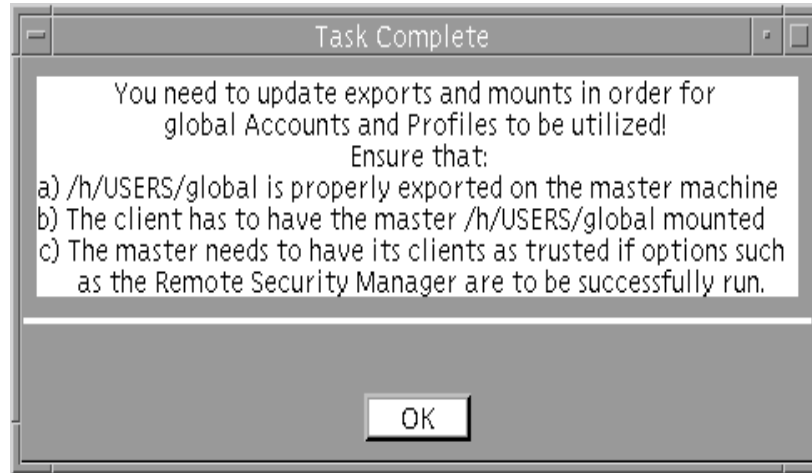

Figure 37. Task Complete Window
STEP 6: **Acknowledge the task complete instructions.** A Task Complete window appears listing several steps that a system administrator must take to use global accounts and profiles (Figure 37). Click on the OK button to close this window.